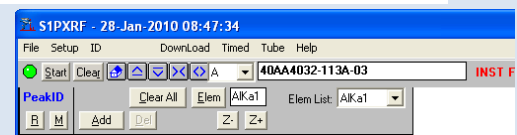

Figure 19 ID Window
- b. From popup window (Figure 19), **SELECT Elem** (see Appendix B for details on using the ID function).